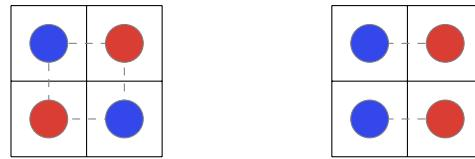

Figure 2.4: Nearest neighbor interactions.
- Let opposing objects in neighboring cells contribute energy ε_1 to the total energy of the system. This means that in Figure 2.4, $E_1 = 4\varepsilon_1$ and $E_2 = 2\varepsilon_2$.